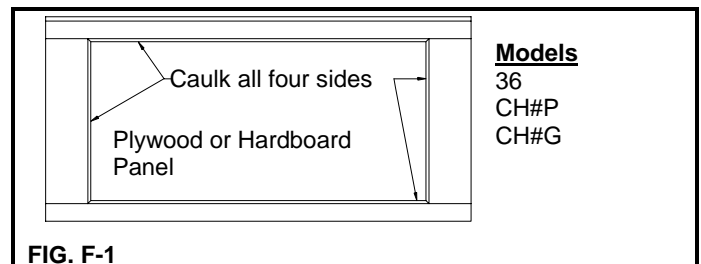
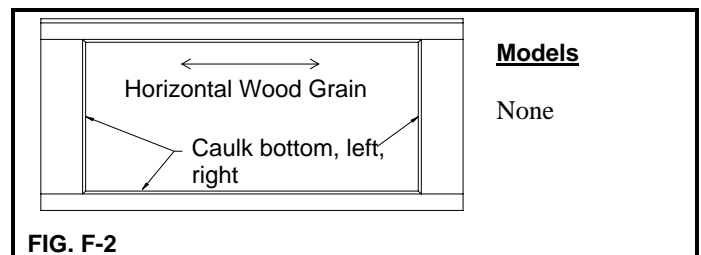
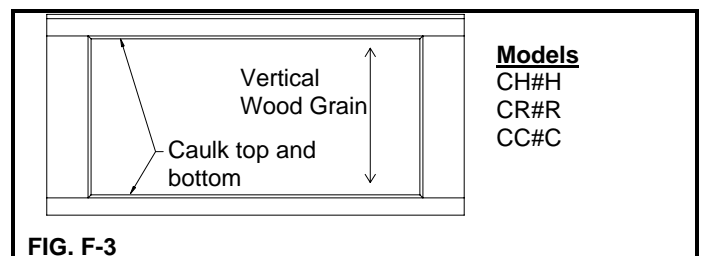

FIG. F-1
FIG. F-2
FIG. F-3
NOTE: For optimum long lasting performance the spaces between the rails or stiles and the door panel should be caulked. For plywood and hardboard panel doors, all (4) sides of each panel should be caulked. (Fig. F-1) For hemlock, cedar, or redwood panel doors with wood grain running horizontally, the bottom, left, and right sides of the panels should be caulked (Fig. F-2). For hemlock, cedar, or redwood panel doors with wood grain running vertically, the top and bottom of the panels should be caulked (Fig. F-3).
NOTE: For optimum long lasting performance the spaces between the rails or stiles and the door panel be caulked. For plywood and hardboard panel doors, all (4) sides of each panel should be caulked. (Fig. F-1) For hemlock, cedar, or redwood panel doors with wood grain running horizontally, the bottom, left, and right sides of the panels should be caulked (Fig. F-2). For hemlock, cedar, or redwood panel doors with wood grain running vertically, the top and bottom of the panels should be caulked (Fig. F-3).